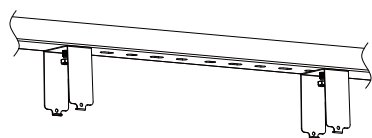

Figure 5
Step1. Mount the bracket on the rail or ceiling (Figure 5);